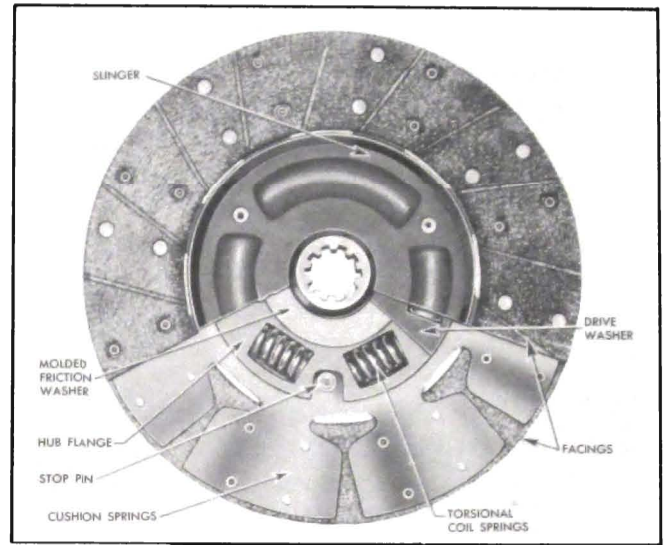

Figure 4-2—Driven Plate—Transmission Side
to provide springs between the plate facings and thereby cushion engagement of the clutch. A woven facing, grooved to give quick release, is riveted to each side of every segment of plate. When the clutch is fully released, the waved segments cause the facings to spread approximately .050" and the movement of pressure plate provides approximately .030" clearance to assure full release of driven plate. See figure 4-2.
stop pins for limiting compression of the coil springs whenever shock loads are transmitted through the clutch assembly. The coil springs are covered on transmission side of plate by a slinger which keeps oil or oil vapor from the driven plate facings. See figure 4-2.
4. *Clutch Driven Plate.* Inspect driven plate for condition of facings, loose rivets, broken or very loose torsional springs and flattened cushion springs. See figure 4-2.